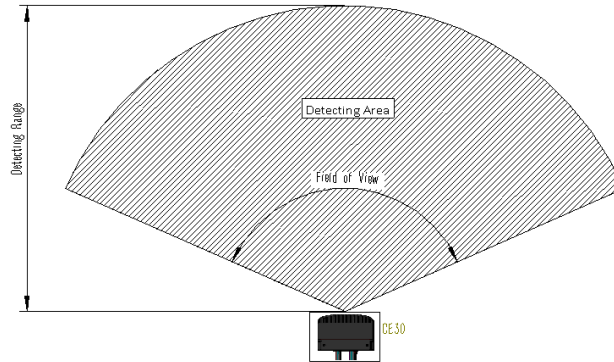

Figure 6 Illustration of Detecting Range and Area
CE30-A captures the distance information of all the obstacles within the detecting range and the FOV. The detecting area is shown in Figure 6.
The farthest detecting range of each angle has been optimized for general obstacle avoidance scenarios, which are different from regular detecting range. The schematic diagram is shown in Figure 6 (Customization is available for special requirements).
- 1) The data provided by the LiDAR is the projected distance of the obstacle to the front surface of the machine, and the angle of the nearest point of the obstacle, i.e. (z,  $\theta$ ). The center of the FOV is 0 degree, the left is negative and the right is the positive. See Figure 6.